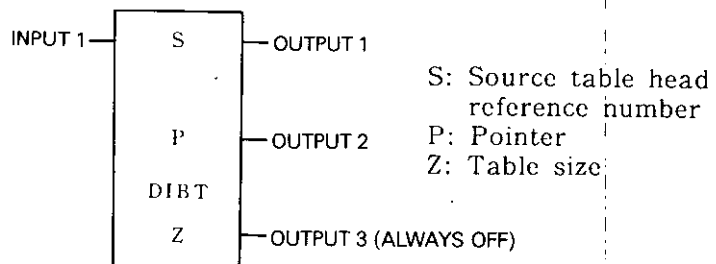

Fig. 5.67 DIBT General Form
- Fig. 5.67 shows the form of the block move 1 with destination index (DIBT).